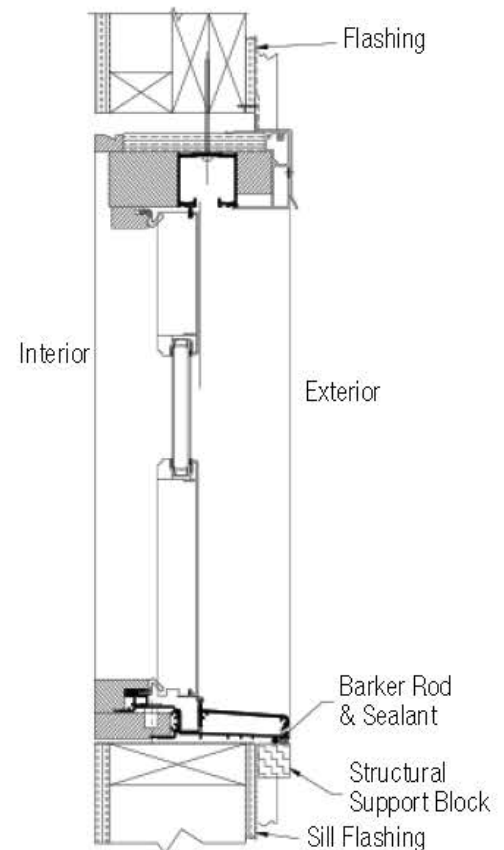

FIG. 20
- B) After siding or wall exterior is complete, apply backer rod and sealant between the door frame and siding material on both sides and sill. Make sure to use 100% silicone sealant. (Fig 20)
It is not recommended to apply trim to the unit until the foam has cured to allow the excess to escape. (Fig. 20 & 21)